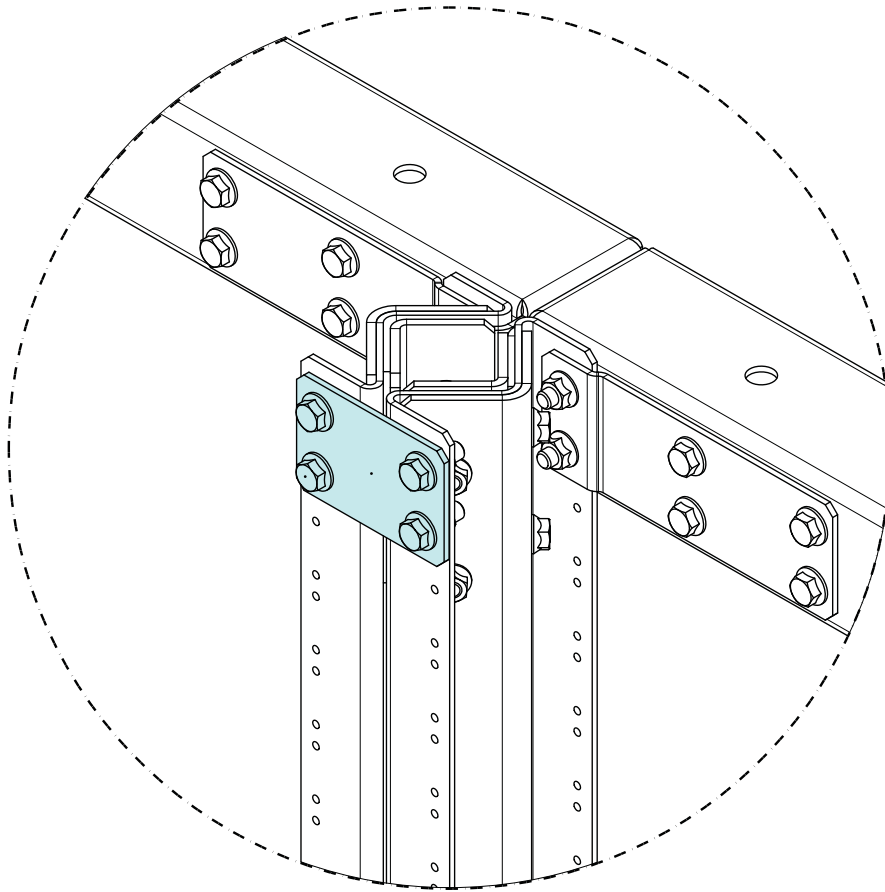

Figure 18 — Joining the racks of adjacent bays (top join shown)
The CAN bus provides a communication path between the controller and rectifiers. In a single bay, the CAN bus cabling is daisy-chained from the shunt mux, if installed, to the bottom rectifier shelf. The cable is then daisy-chained from the bottom shelf, to higher shelves, in sequence. At the last shelf, termination is enabled—see Figure 18.
2. Flip the DIP switches from Termination Enabled to Termination Disabled—see Figure 18.